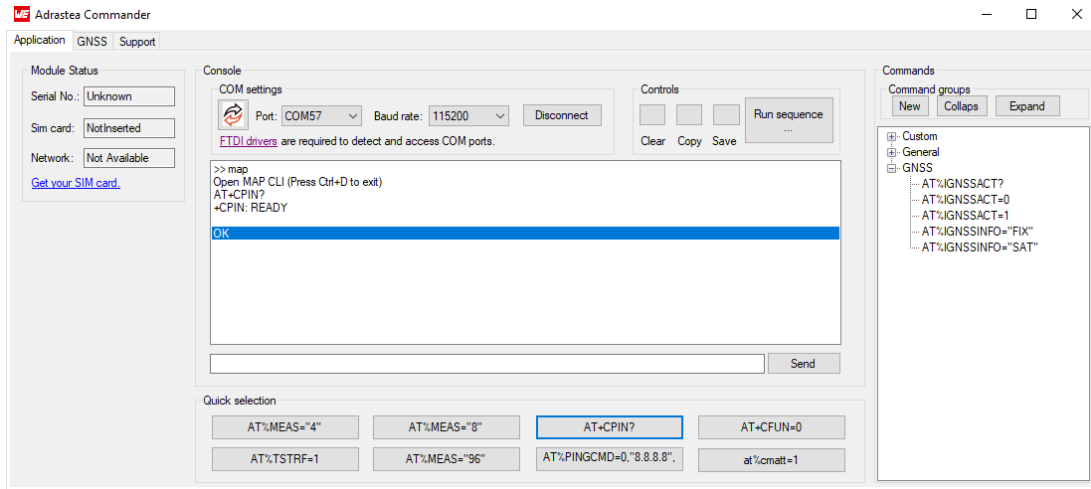

Figure 4: SIM card detected- Adrastea command
- Step 8: Check if the SIMcard is detected. Send command `map` followed by the command `AT+CPIN?`. See figure 4.